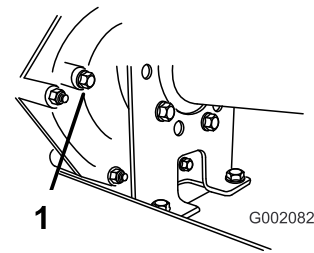

Figure 56
2. Remove the bolt from the level indicator hole (Figure 56).